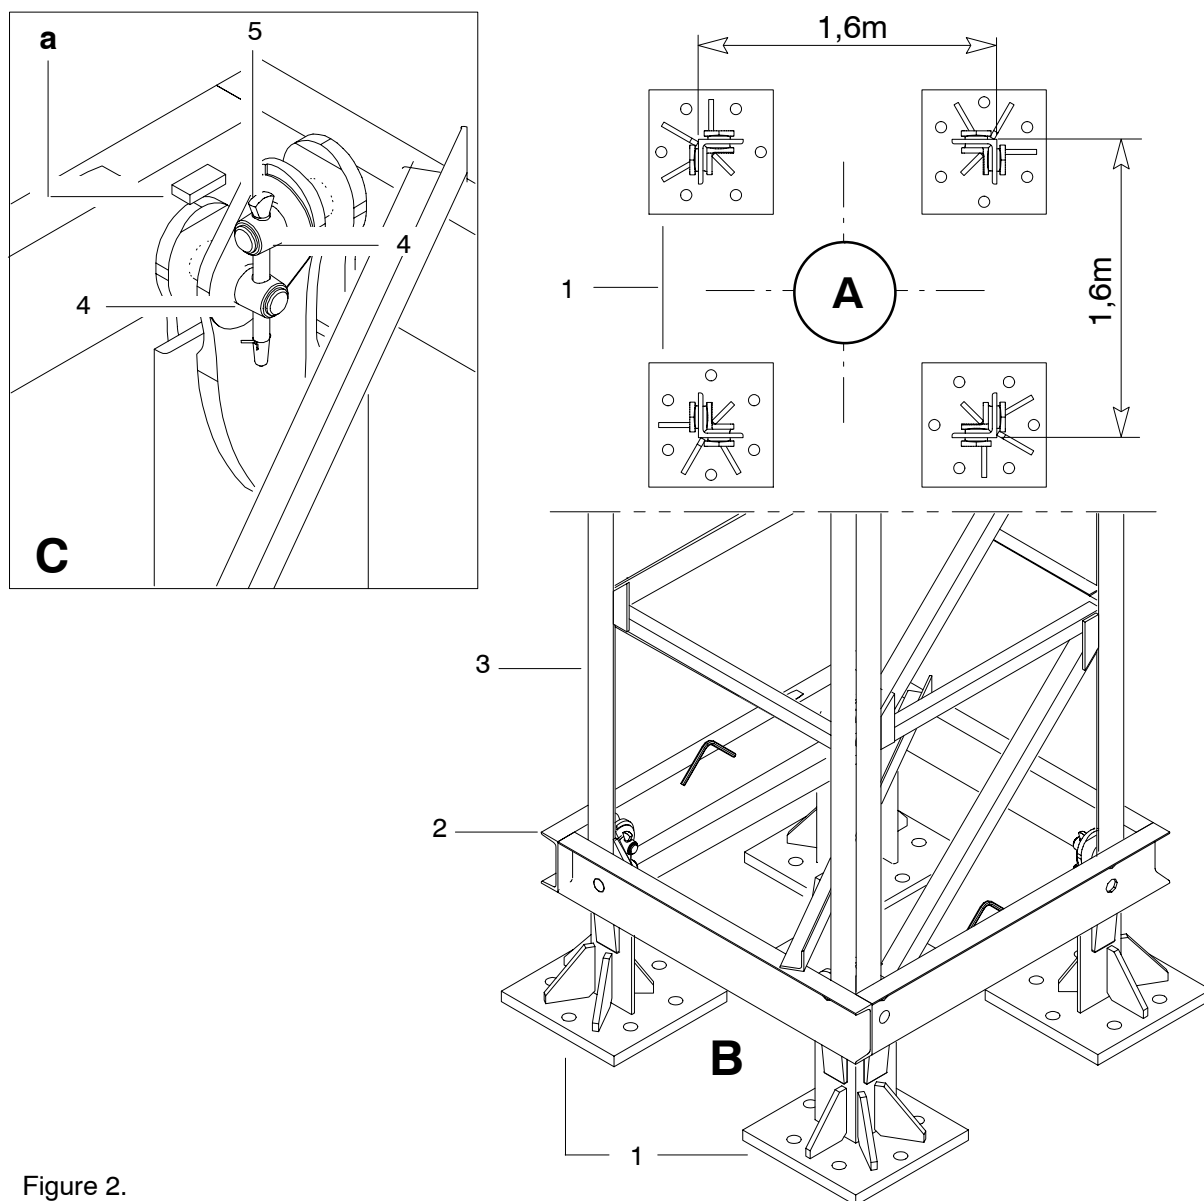

Figure 2.
- ☐ Arrange the fixing angles (1) by observing their distance (Detail A – Figure 2).
- ☐ Engage the template (2) into the 4 fixing angles, lower it until it comes to rest onto the fishplates at (a) (Detail C – Figure 2).
- ☐ Engage the standard mast section (3) into the fishplates of the fixing angles (Detail B – Figure 2). Raise the template (2) in order to pin-connect the 4 x 2 shafts (4). Block the shafts (4) by means of the pins (5); fix the pins with split pins (Detail C – Figure 2).